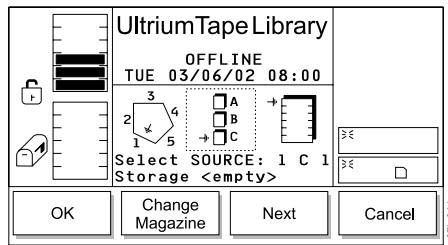

Figure 276. Change Magazine Dialog
- a. Press the button below the **Change Column** softkey until the arrow in the left icon points to the column that you want. Press the button below the **Next** softkey. The Change Magazine Dialog displays (see Figure 276 on page 198).